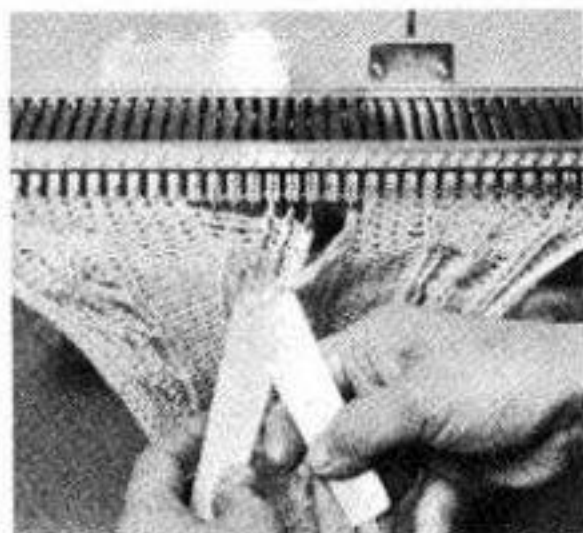

Fig.100
- Place the three stitches from the second tool onto the first three empty needles. These two sets of three stitches will now be crossed over each other. (Fig.100)